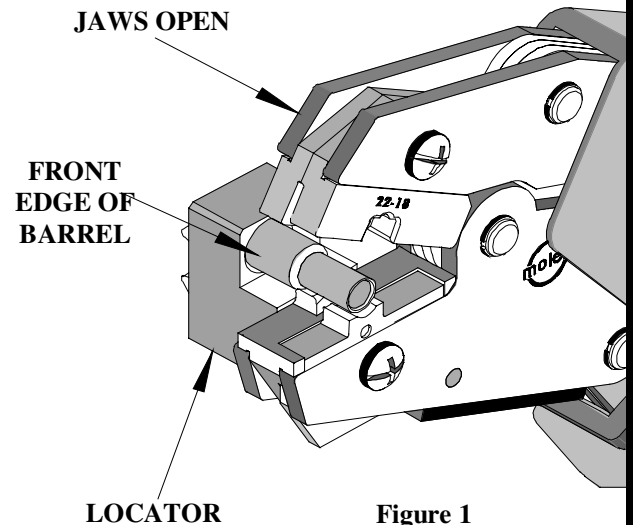

Figure 1
1. Position the terminal with the smaller part of the barrel onto the color-coded nest and push the front edge of the bigger barrel inside the locator until it stops (See Figure 1).